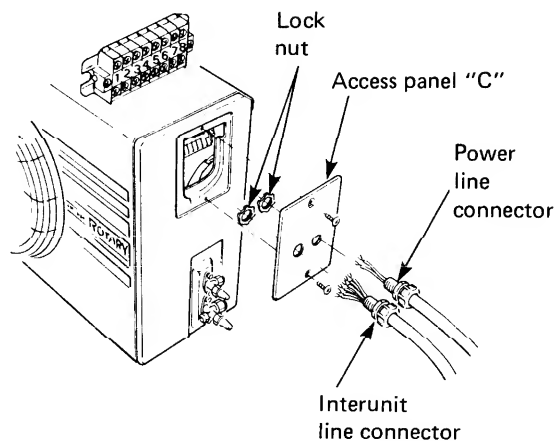

Fig. D-10
**Note:** When working only on the wiring, it is possible to gain access to the wiring terminals by simply removing the Access Panel "C". Fig. D-10.